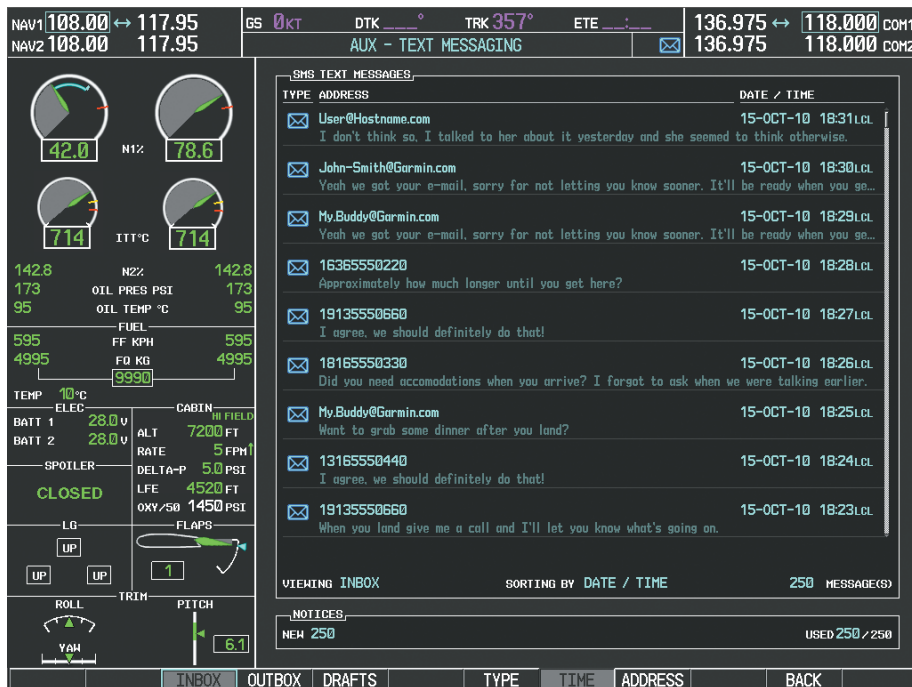

Figure 8-105 Text Message Inbox
While viewing the AUX-TEXT MESSAGING Page, select the **ARRANGE** Softkey, then select the **INBOX** Softkey (Figure 8-105).
While viewing the AUX-TEXT MESSAGING Page, select the **ARRANGE** Softkey, then select the **TIME** Softkey (Figure 8-105).
- 3) Press the **ENT** Key. The sorting selection is indicated at the bottom center of the list window (Figure 8-105).